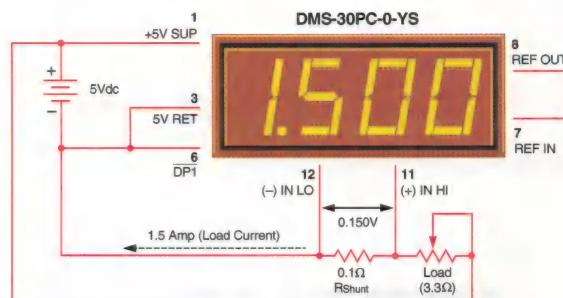

Figure 9. Basic DC Ammeter Circuit
7. **Digital Ammeter:** Digital ammeters are finding ever-increasing usage because analog-style ammeters (moving-vane types) now cost roughly the same as their digital counterparts. Additionally, analog ammeters are not nearly as rugged as modern digital panel voltmeters. Figure 9 illustrates a typical ammeter application. The circuit uses a $\pm 200\text{mV}$ input meter — the preferred range for most ammeters — to measure the voltage developed across a 0.1Ω current shunt. The circuit shown represents a basic ammeter connection diagram. A detailed application note describing digital dc ammeters is included in DATEL's new Digital Panel Meter Databook.